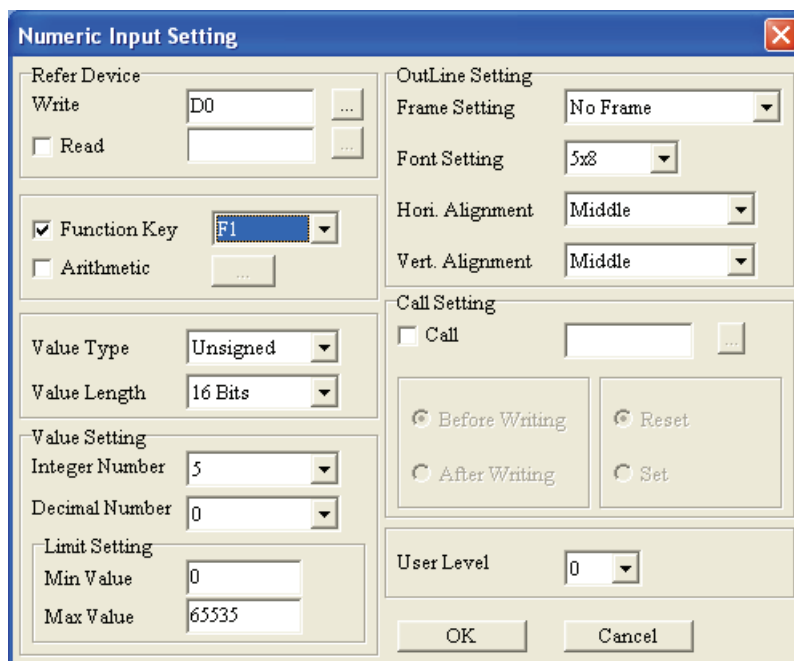

Figure 1-105
Step 1. After choose **Object(O) > Numeric Input(N)** command from the menu bar or click the icon  on the toolbar to create a Numeric Input object on the screen. Double-click the selected object by using the mouse, the following Numeric Input Setting tab will pop up (Figure 1-105). The settings and usage of Numeric Input object is the same as the Input Value Button object. After editing this Numeric Input object, TP series will display the editing result on the screen immediately. The users can use function keys or command keys to input the value. When Enter key is pressed, the input value will be sent from TP series to the corresponding PLC register.